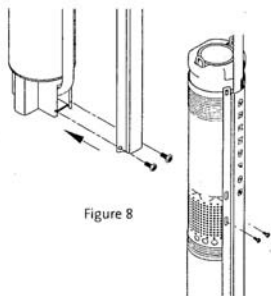

Figure 8
2. The two flaps of the cable guard must engage with the upper edge of the pump sleeve, see Figure 8.